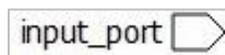
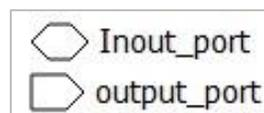

Figure 2.71. Input Port
Figure 2.72. Output Port and Inout Port
- f. Click **OK**. The port appears. Figure 2.71 shows an input port, port name of which is on the left. Figure 2.72 shows an output port and an inout port, port names of which are on the right.